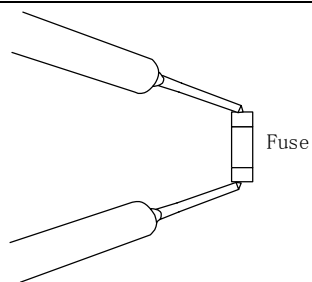

Fig. 2
- 2) Check for continuity using a multimeter as shown in Fig.2.